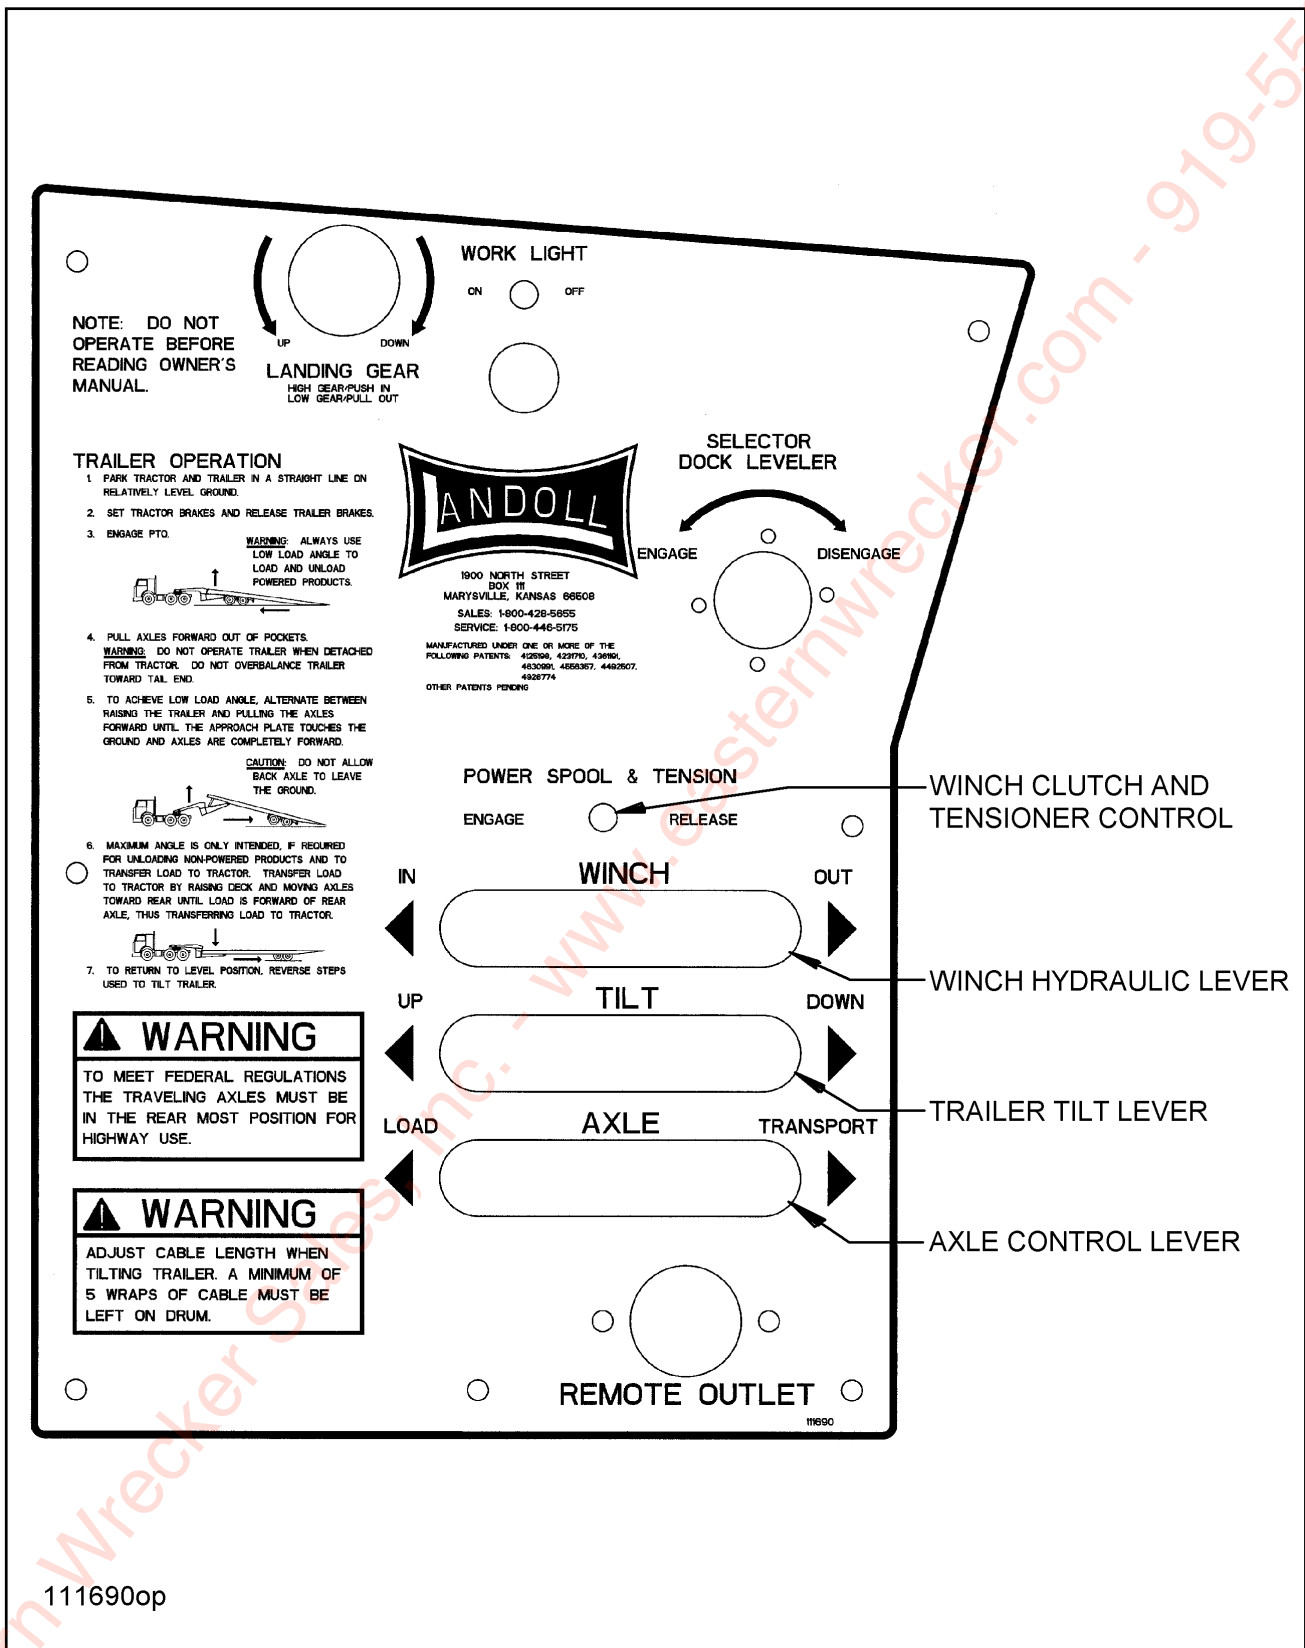

Figure 3-4 Hydraulic Controls
- a. For pin drop landing gear, activate the **TRAILER TILT** lever "UP" (See Figure 3-4) until weight is off the landing gear. Raise landing gear. (See Section 3-9 for operation of **TRAILER TILT** lever.) Secure each leg with a park stand retaining pin in the full "up" position before transporting.
The **AXLE CONTROL** lever (See Figure 3-4) is located on the control panel. It is the top lever with three positions: